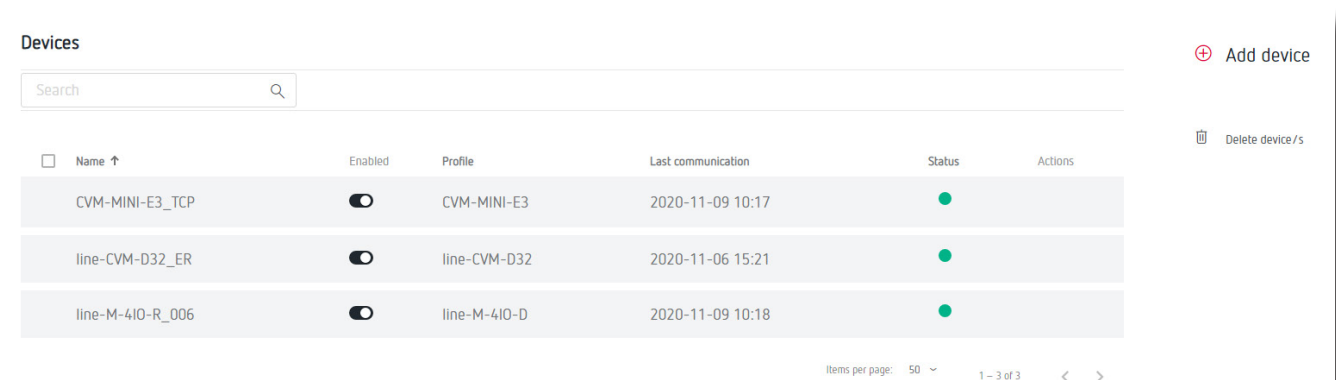

Figure 28: Device screen.
**Devices** screen, Figure 28.